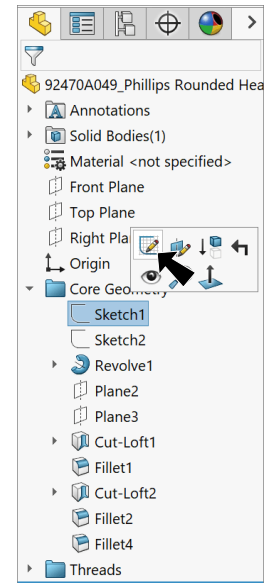

Fig. 3
Step 1. Use File Explorer (**Windows-E**) to copy the screw file from your Downloads folder to your **Tank** folder, **Fig. 3.**
Step 2. Expand **Core Geometry folder** in the Feature Manager, click **Sketch1** and **Edit Sketch** in the content toolbar, **Fig. 3**.